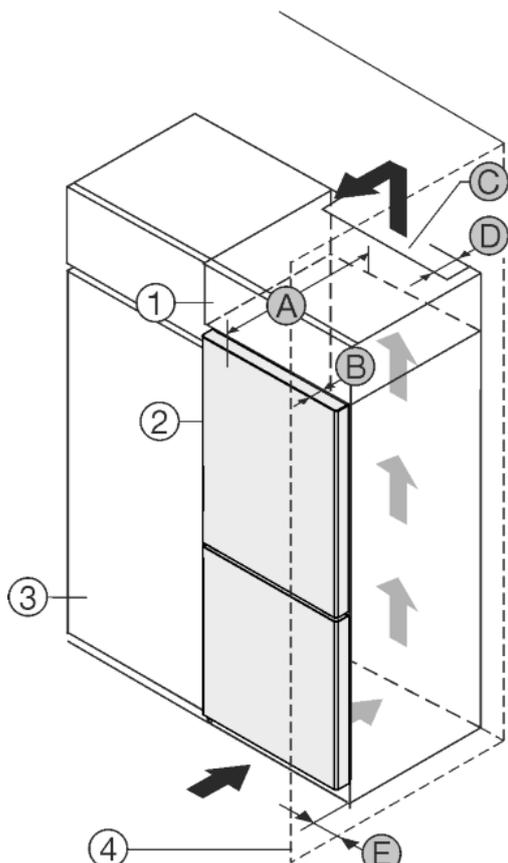

Fig. 1
- (1) Top cupboard*
- (2) Appliance*
- (3) Kitchen cabinet*
- (4) Wall*
- (A) Appliance depth*
- (B) Door depth*
- (C) Ventilation cross section*
- (D) Distance to the back of the appliance*
- (E) Distance to the side of the appliance*
Set up the appliance directly next to the kitchen cabinet Fig. 1 (3).*
Set up the appliance with a distance of 5 cm between the appliance and the kitchen appliance Fig. 1 (3).*
At the back of the top cabinet, there must be an air outlet shaft with the depth Fig. 1 (D), spanning the entire width of the cabinet.*
The ventilation cross-section Fig. 1 (C) must be maintained under the ceiling.*
If the appliance is set up with the hinges next to a wall Fig. 1 (4), the distance between the appliance and the wall must be at least 40 mm. This is how far the handle protrudes when the door is open.*
The appliance must protrude by the depth of the door Fig. 1 (B) from the front of the cabinet so that the doors can be opened fully. The appliance may protrude further depending on the depth of the kitchen cabinets Fig. 1 (3) and whether wall spacers are used.*
The appliance must protrude by the depth of the door (B) from the front of the cabinet so that the doors can be opened fully. The appliance may protrude further depending on the depth of the kitchen cabinets Fig. 1 (3) and whether wall spacers are used.*